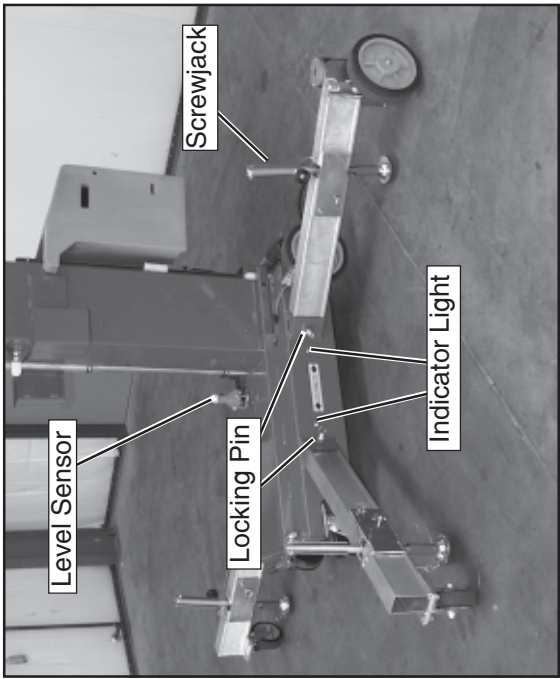

Figure 1: Installing outriggers
2. Insert into outrigger socket in base (Figure 1).
4. Repeat the above steps for all other outriggers. Make sure all four (4) locking pins are engaged.
5. Level the base, centering the bubble in the orbit level on the base by adjusting the screwjacks at the end of each outrigger (Figure 1). DO NOT release the tension on an outrigger, by turning counterclockwise, to level base.